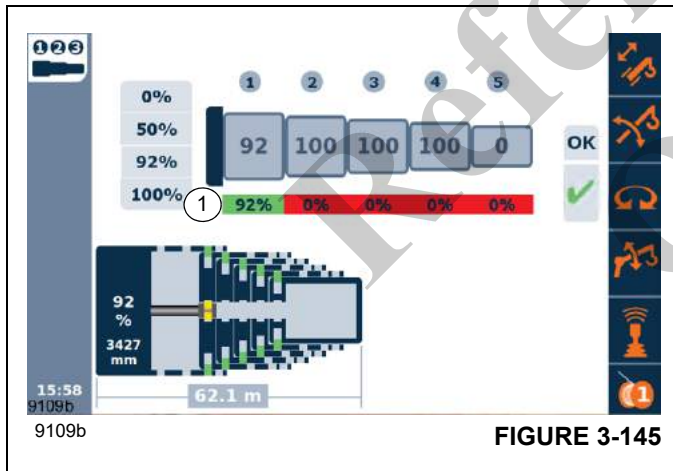

FIGURE 3-145
| 1 - 5 | Display of telescopic sections 1 to 5 as shown in (1), (Figure 3-145). |